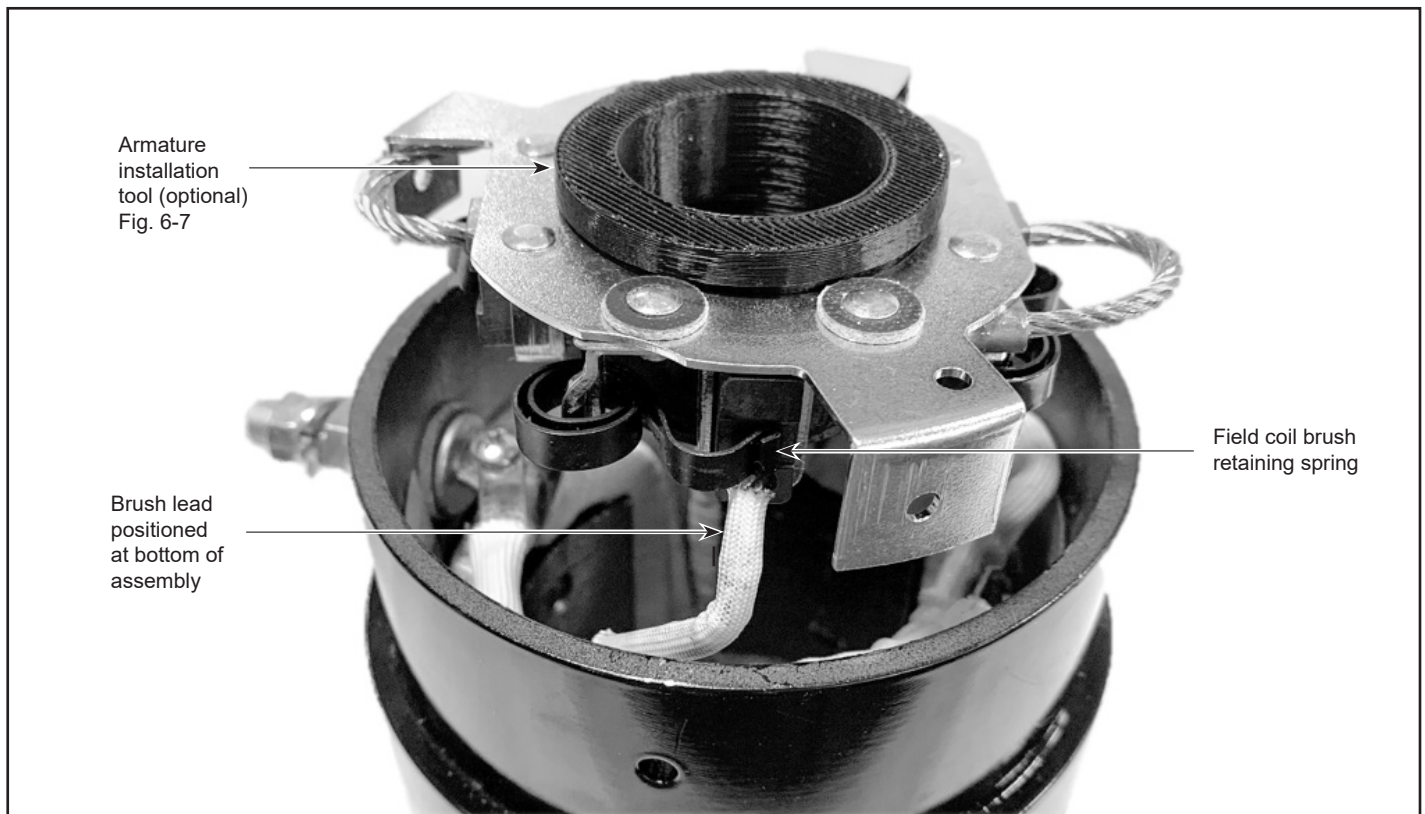

Figure 6-6 - Brush Holder Assembly
- (5) Install brushes (6) into new brush holder (5). Position the brush holder assembly with mounting tabs facing the inside of the starter housing as shown in Fig. 6-6.
- (a) Install each brush into the brush holder with the wire lead positioned at the bottom of the assembly, Fig. 6-6.
- (6) **Optional:** Install an armature installation tool (Fig. 6-6) to aid in the installation of the drive end housing and armature assembly, Fig. 6-2.
- (7) Position field coil brush retaining spring over field coil brushes (6) as shown in Fig. 6-6.